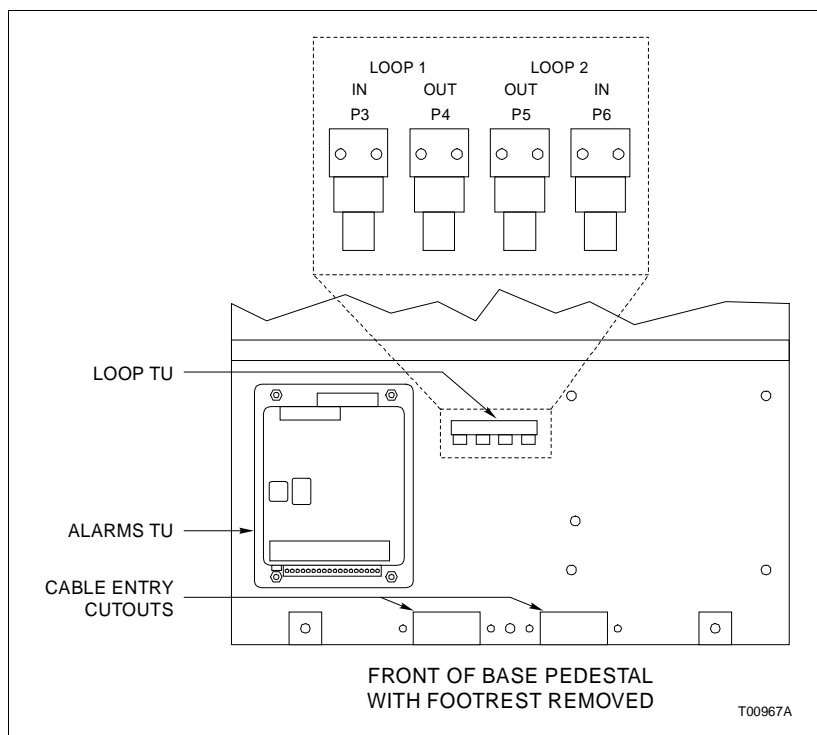

Figure PR29-1. Cable Entry Cutouts and Loop TU
2. Bring the INFI-NET cables to the first main terminal up through one of the cable entry cutouts in the bottom of the base pedestal. Figure PR29-1 shows the location of the cable entry cutouts.